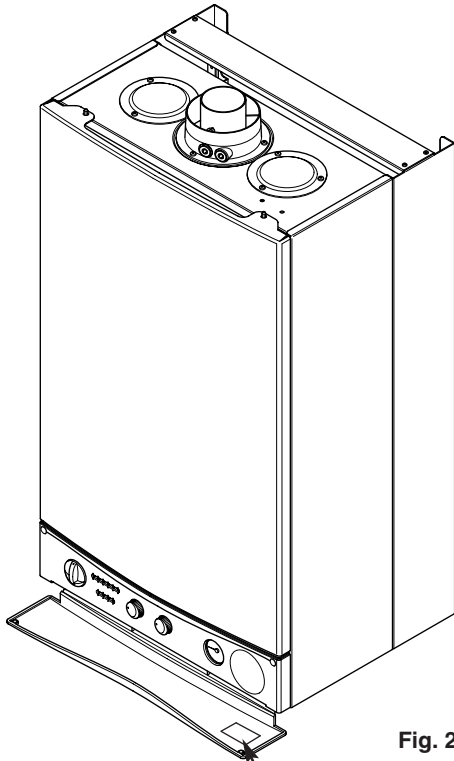

Fig. 22
3. The name, model number and serial number can be found on the information label on the back of the hinged lower door (Fig. 22).